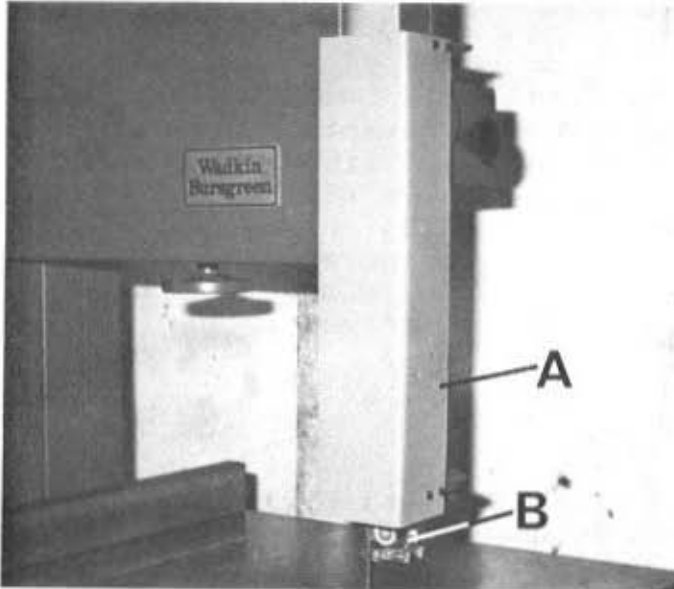

FIG 6
3. Swing sawguard "A", FIG.6, clear of guide "B".